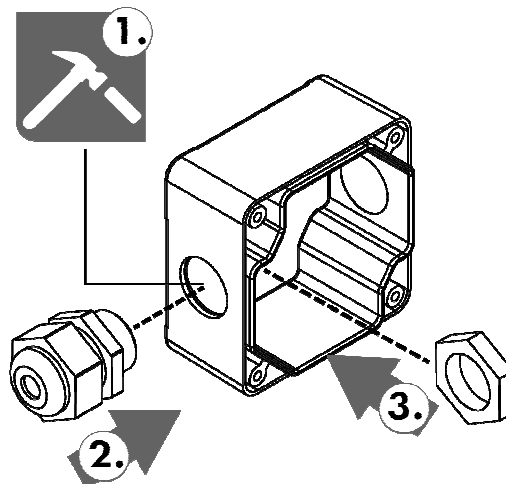

Figure 1: Mounting of cable gland (respect the tightening torque of the cable gland!)
- When using the M20 cable entry the blind plug for break out needs to be removed with a suitable tool (Figure 1).